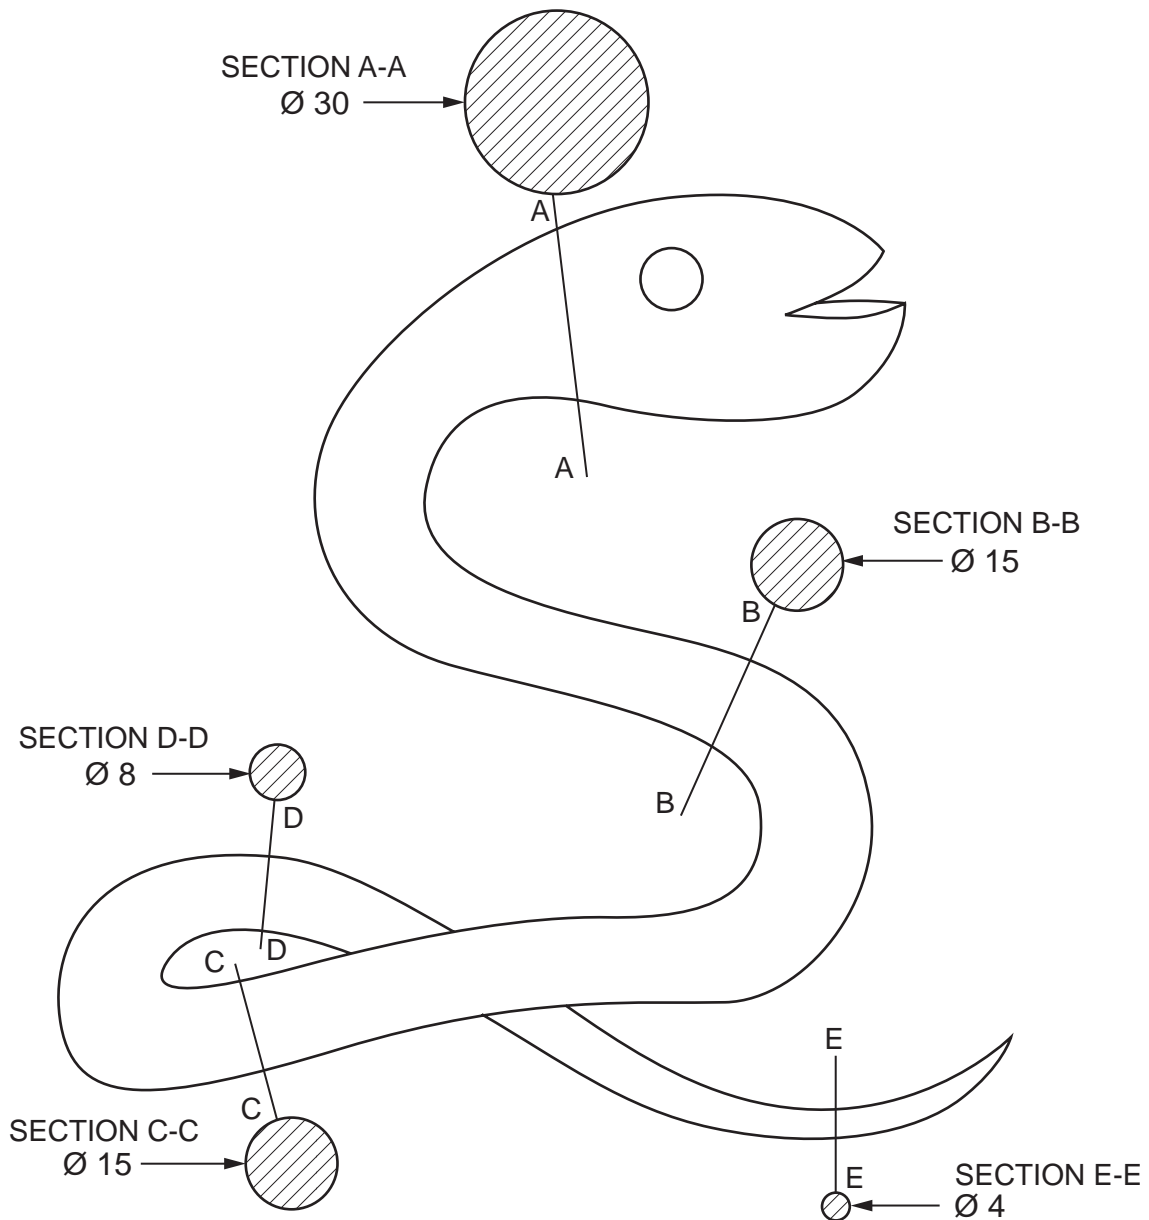

Fig. 2
- 3 Fig. 2 shows a sketch of a snake that is to be made from  $\text{Ø}15$  section black mild steel.